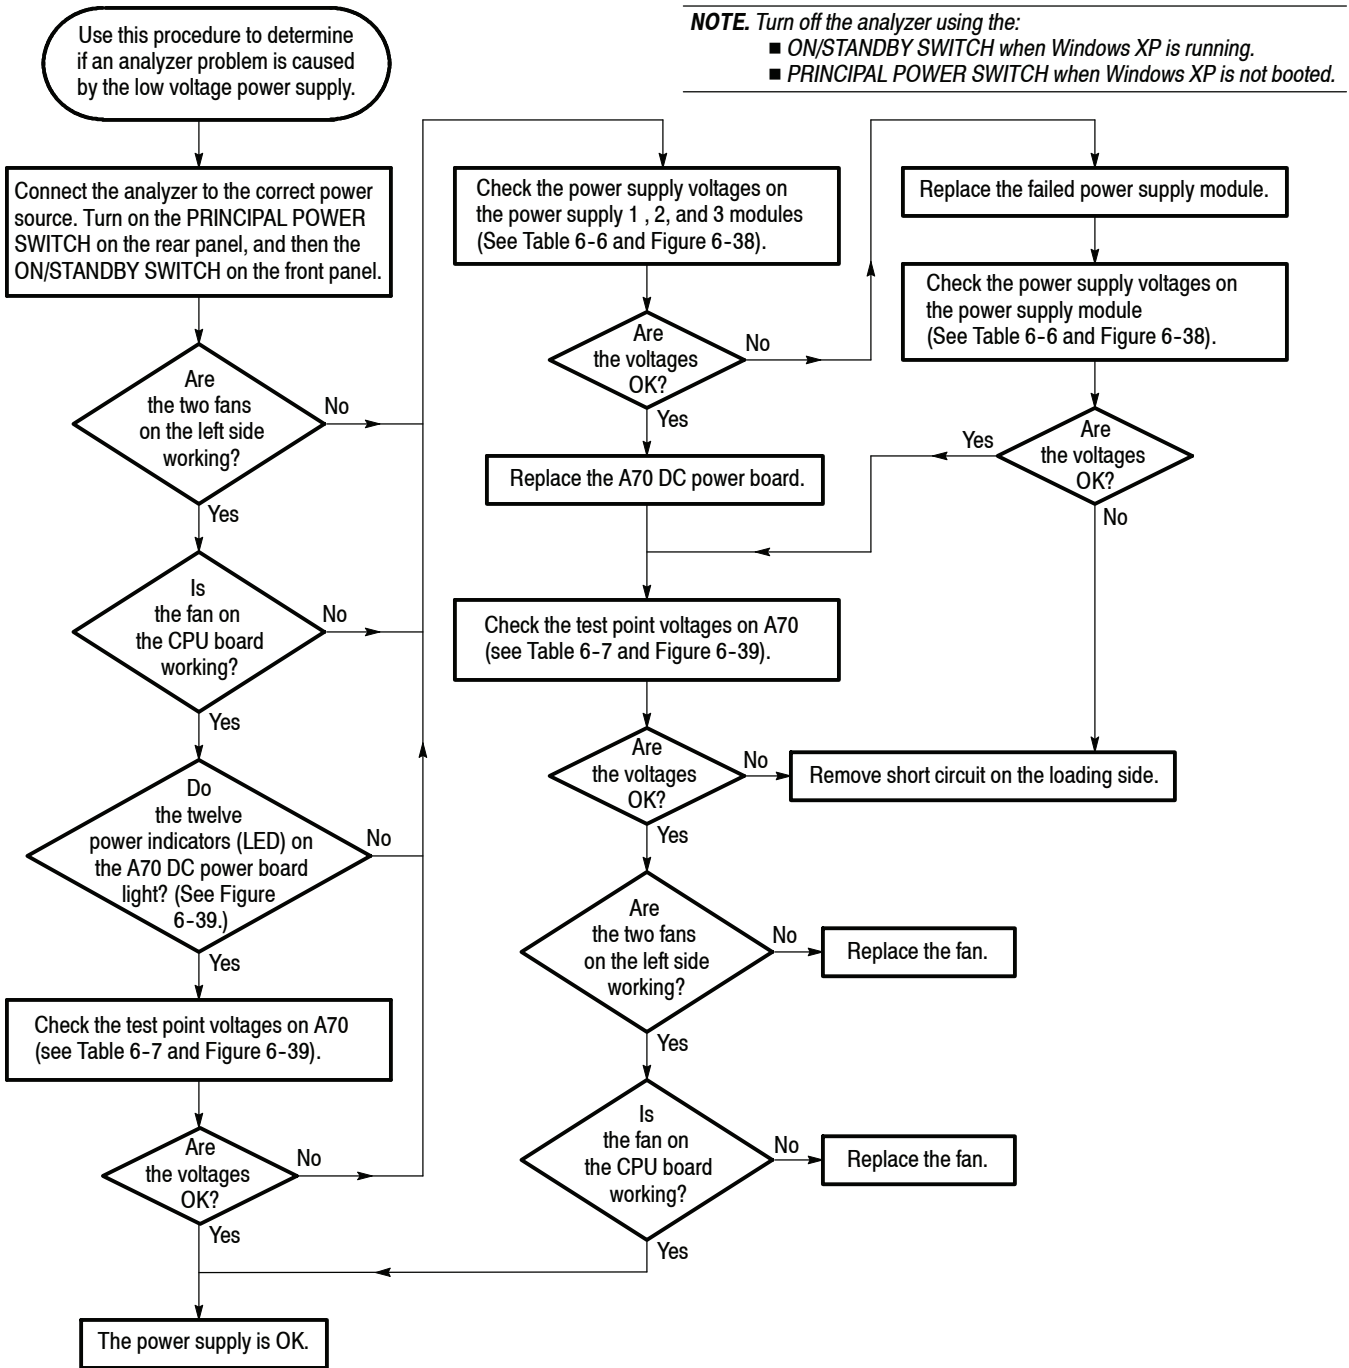

Figure 6-34: Troubleshooting procedure 1 — Power supply system
- Figure 6-34: Troubleshooting Procedure 1 — Power supply system